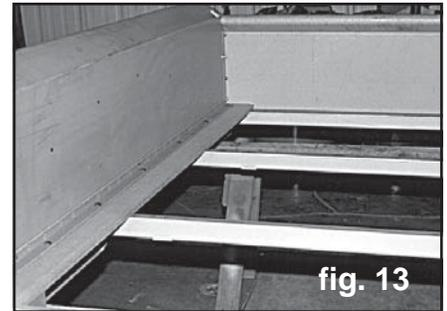

fig. 13
15. If using the fuel filler option on 47-48 trucks, the 2nd cross sill will need to be modified for clearance of the gas tank during installation. Slide the two offset-hole cross sill brackets onto the third cross sill from the front bed panel, with the holes offset toward the bed sides. Attach the second and third cross sill to the 5/16 angle strip bolt approximately **26-7/8"** and **53-7/16"** respectively from the front bed panel. See figure 13. Install lock washer and nut hand tight.